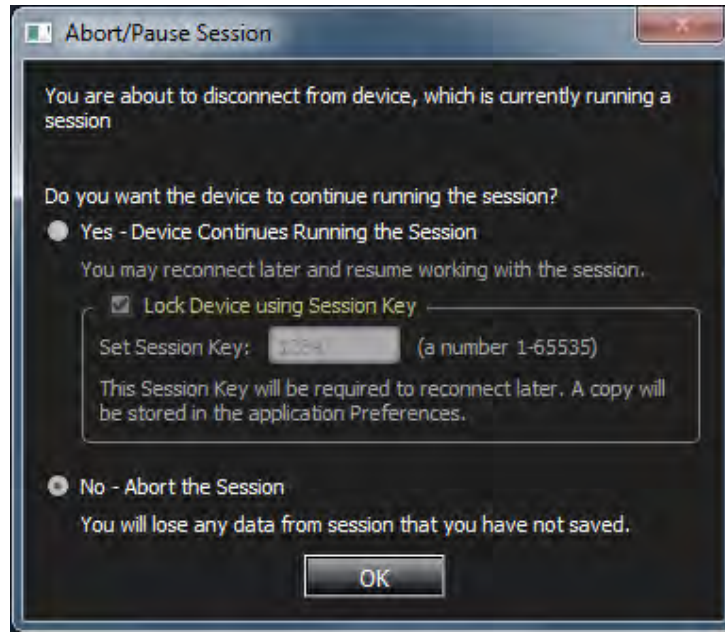

Figure 3.39: Abort the Recording Session
- Close the Project, Abort the Recording of Data Traffic entirely, and lose any Data Traffic that has not already been saved. See Figure 3.39.